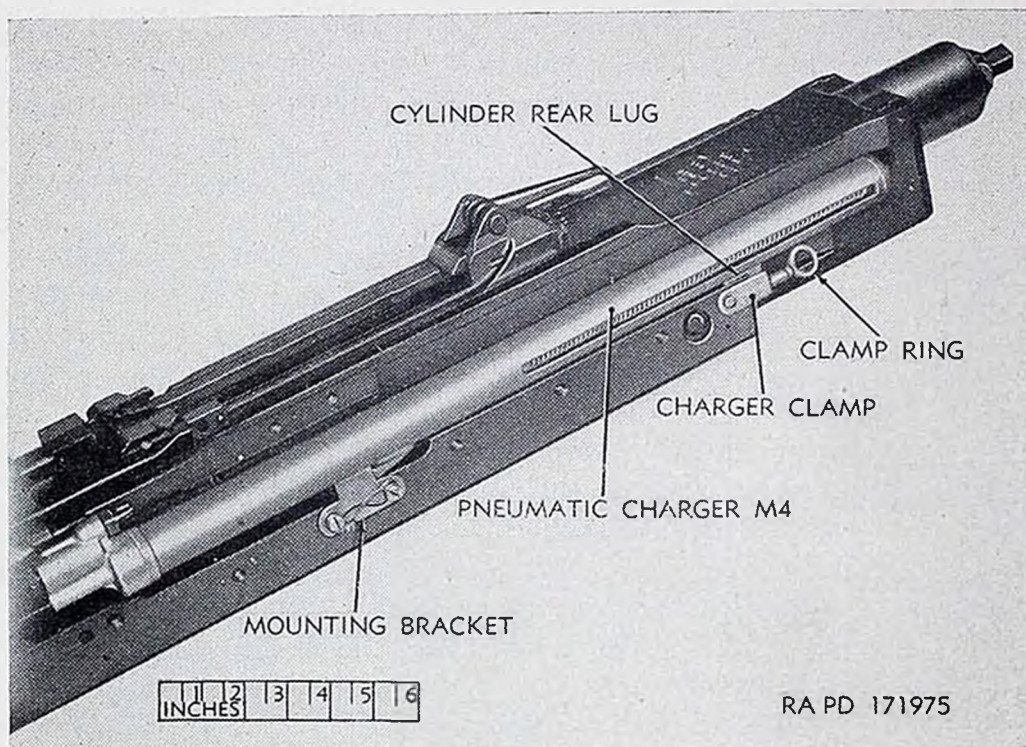

Figure 23. 20-mm pneumatic charger M4 mounted on gun.
- (c) Hold charger above edge of cradle, with driving lug toward side of gun and with head toward muzzle. Lower charger and push it forward so that cylinder front lug of charger enters under curved surface of mounting bracket (fig. 23).
- (d) Pull clamp ring rearward, swing the charger clamp up into horizontal position, and release clamp ring, allowing clamp plunger to enter seat in cylinder rear lug (fig. 23).
- (3) *Dismounting the charger* (fig. 23).